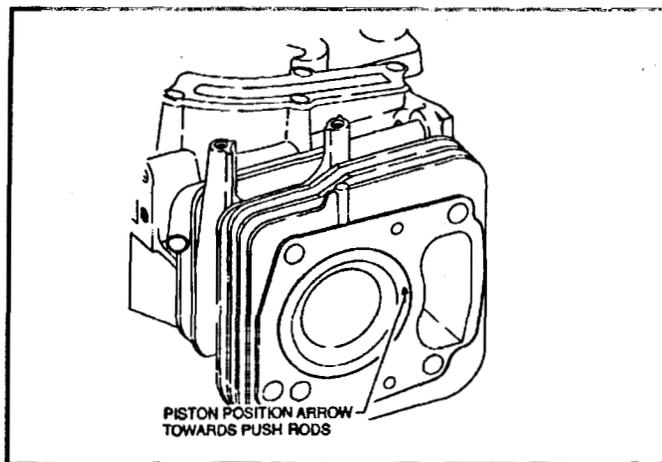

Figure 77
4. Make sure the piston is in the cylinder with the arrow on the face of the piston toward the push rod side of the engine. The word "MAG" on the connecting rod should face the magneto side of the engine. See Figure 77.